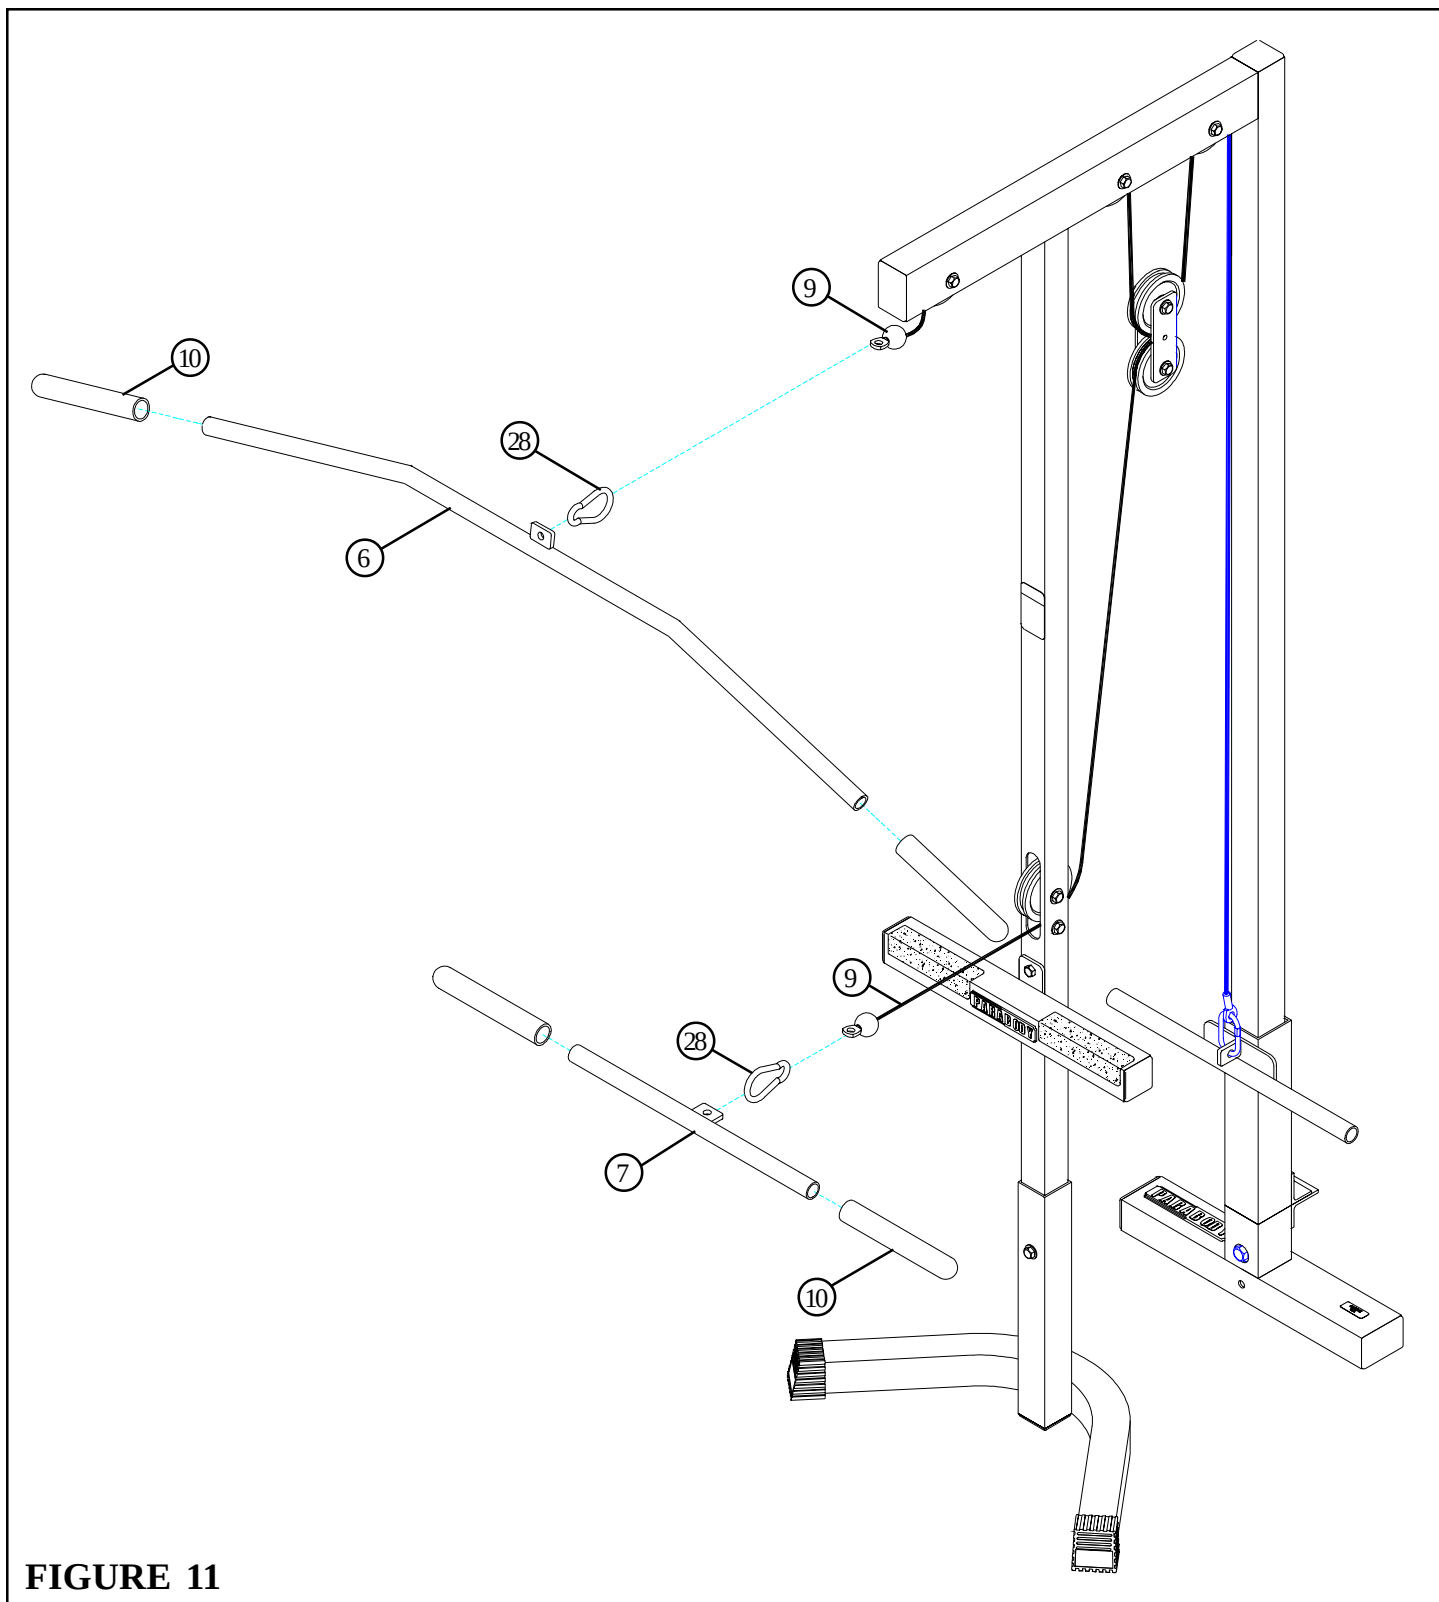

FIGURE 11
- Slide two 1 X 8" GRIPS (10) on the LOW ROW BAR (7) and two 1 X 8" GRIPS (10) on the LAT BAR (6) as shown in FIGURE 11.
- Attach the LAT BAR (6) to the ball end of the upper CABLE (9) using one 5/16" SNAP HOOK (28) as shown in FIGURE 11.
- Attach the LOW ROW BAR (7) to the ball end of the lower CABLE (9) using one 5/16" SNAP HOOK (28) as shown in FIGURE 11.